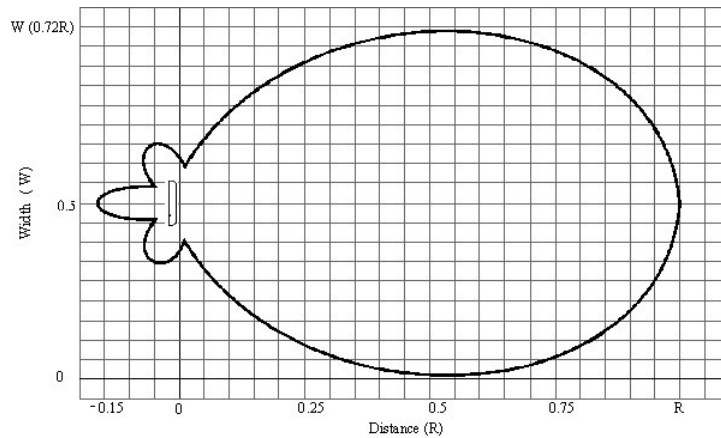

Figure 1 Effective RF field for tags with LR-3000 reader
The reader's effective RF field, in which the long-range credentials can be detected, is maximized when there is no material in front of the reader or immediately to the sides of the reader. See the LR-3000 Effective RF Field diagram (Figure 1 on page 5).
- By moving the test tag in the space in front of the LR-3000 reader, the tester can map the extent of the effective RF field that is plotted in Figure 1. The reading distance should extend from the reader's face to the guaranteed 10 feet or 15 feet with the test tags. The maximum diameter of the field's cross-section, at half of the maximum range, should be about 6 feet.